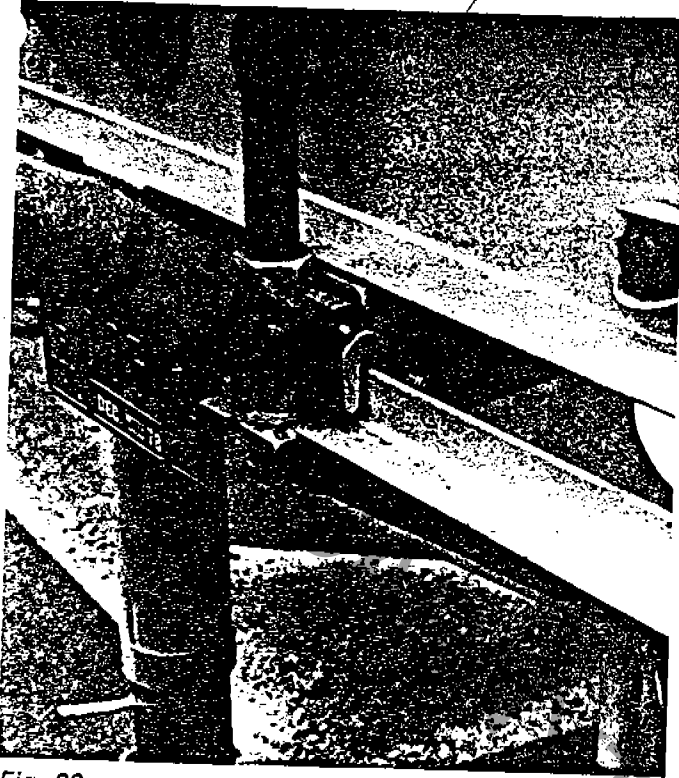

Fig. 28
- a. Unlock the 2 lock hooks on the rear of the trailer. (Fig. 28)